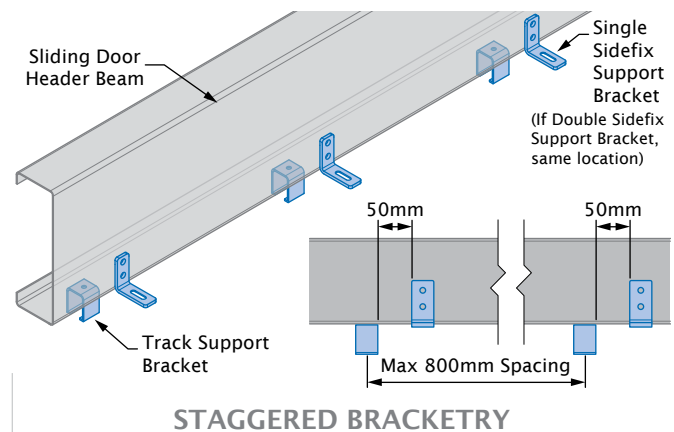

Figure 36
Mark the hole spacings at a maximum of 800mm along the bottom flange and drill Ø14mm holes (Figure 36).
**Note:** If sidefix support brackets are to be installed in conjunction with track support brackets under the header beam, stagger the brackets by 50mm (Figure 36).